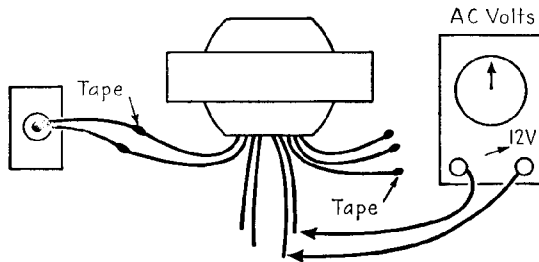

FIG. 8-9.—Identifying the amplifier heater winding.
3. Connect the primary to the AC line, and check the voltage of the filament windings to determine which is the amplifier and which the rectifier filament winding (Fig. 8-9).